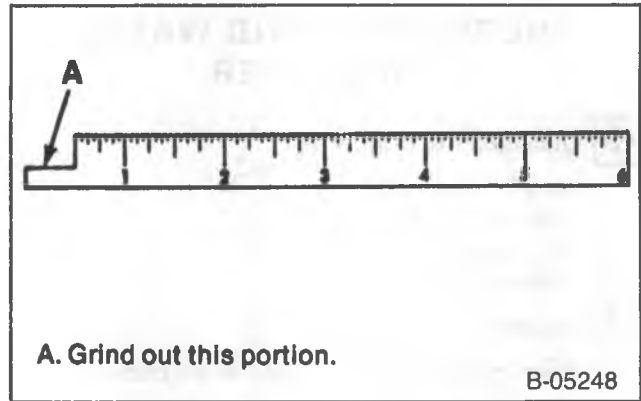

Figure 25—Cutaway Scale
Measure (Figures 25 and 26)
- Use a narrow, thin scale. A cutaway scale (figure 25) may be helpful.